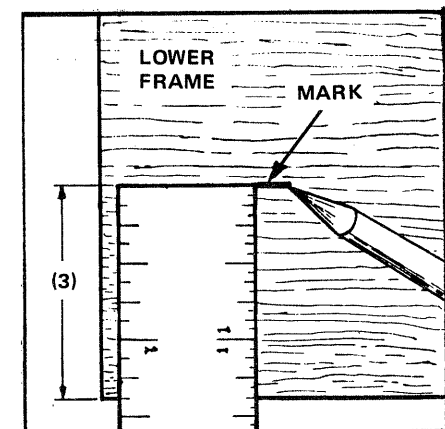

FIGURE 8-5 Mark the back of the Lower Frame.
Refer to Line (3) under STEP 8-6 on the Check List. Use the measurement written there to measure down from the TOP of and mark the back of the Lower Frame near both ends. See FIGURE 8-5.